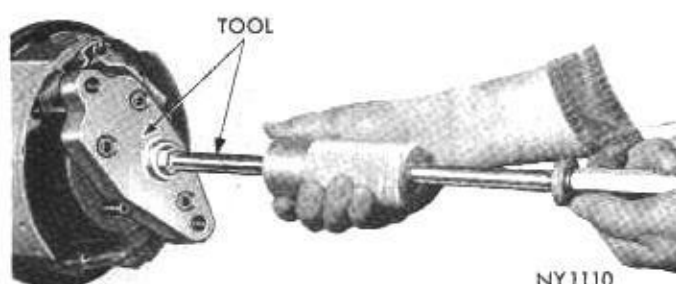

Fig. 2—Removing Axle Shaft
(2) Disconnect brake lines at wheel cylinders.
(3) Using access hole in axle shaft flange, remove retainer nuts.
(4) Attach axle shaft remover tool C-3725 to axle shaft flange and remove axle shaft. Remove brake assembly (Fig. 2).
(5) Remove axle shaft oil seal from housing.